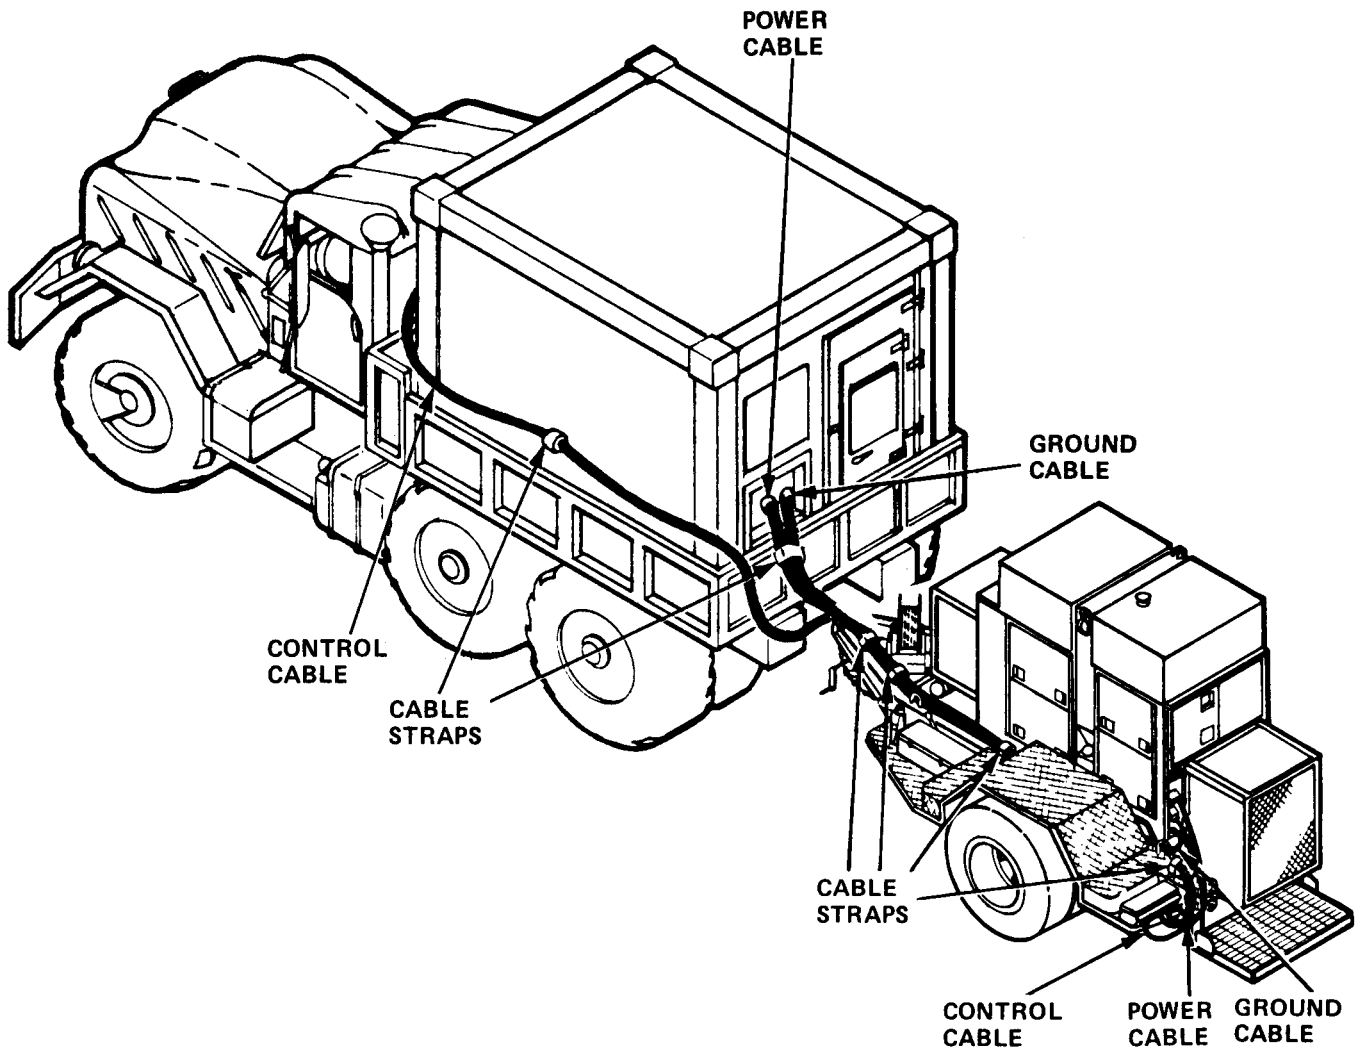

Figure 2-6. Cable Routing For Mobile Operation
g. Route the ground cable, power cable, and control cable along the side of the generator set toward the tongue of the trailer (Figure 2-6).
h. Fasten the cables to the trailer with the straps on the trailer frame (Figure 2-6).